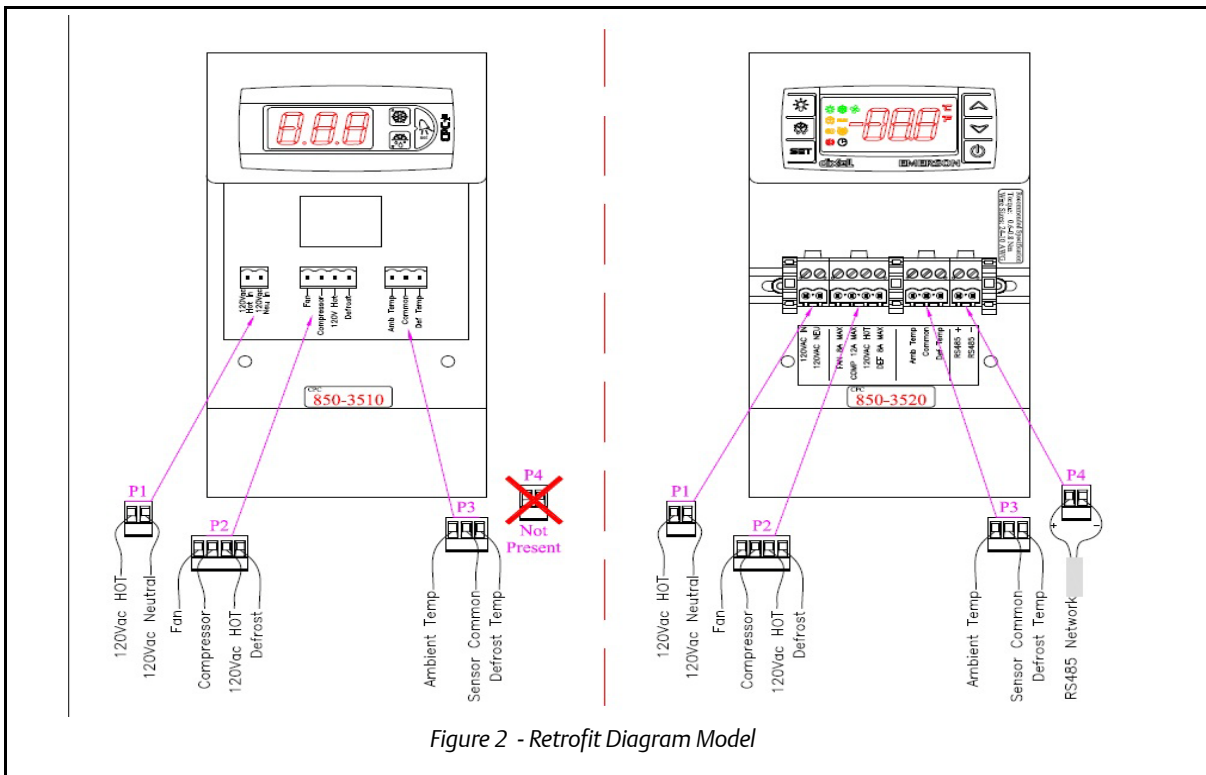

Figure 2 - Retrofit Diagram Model
7. Reconnect the plug-in connectors P1, P2, and P3 to the XR75CX pre-wired terminal strips. (Note that the placement of the connections will be in the same order as the original layout). See **Figure 2**.